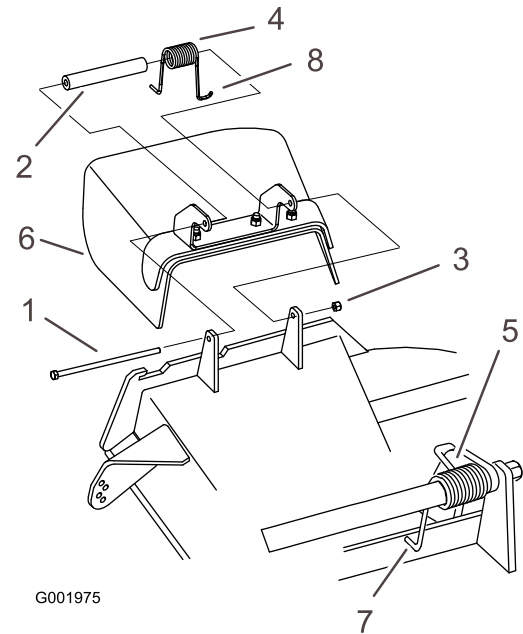

Figure 62
1. Remove the locknut, bolt, spring and spacer holding the deflector to the pivot brackets (Figure 62). Remove damaged or worn grass deflector.
Note: Make sure the **L** end of spring is installed behind deck edge before installing the bolt as shown in Figure 62.
3. Install bolt and nut. Place the **J** hook end of spring around grass deflector (Figure 62).